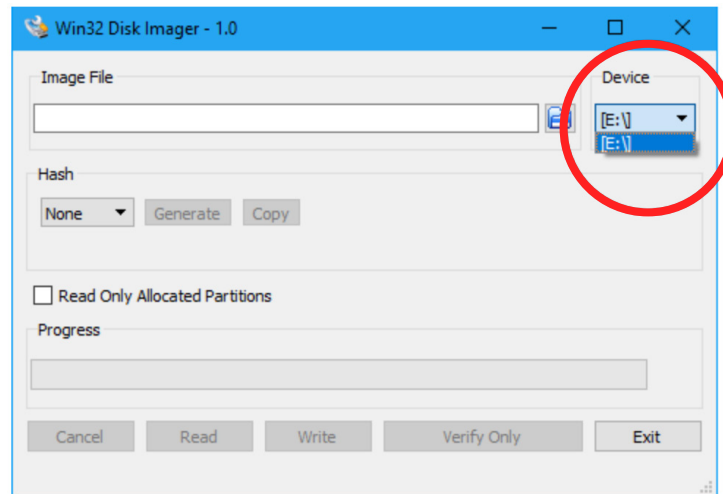

Figure 4-1. Win32 Disk Imager - Device selection.
- 6) Open Win32 Disk Imager application. Under **Device**, select the microSD card you inserted (figure 4-1). **Be careful not to select an external hard drive or any other device, as it will be overwritten!**